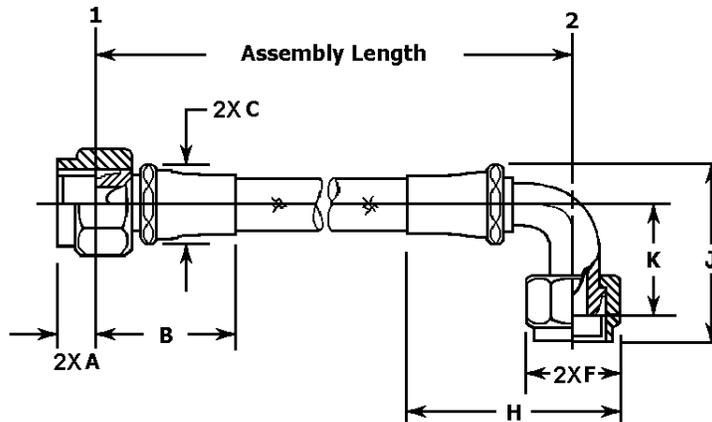

FIGURE 3. Style C hose assembly.
- 2/ Dimensions are shown on figure 3.